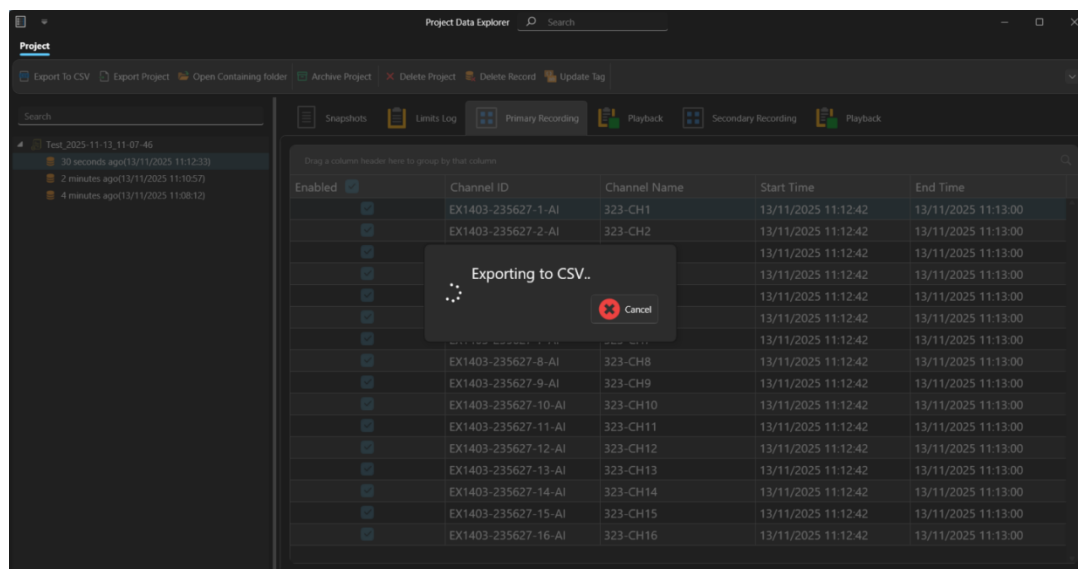

Figure 33. Exporting Data
- The data acquisition should be stopped prior to exporting the data. Select the preferred channels and click on the **Export to CSV** button. Refer to Figure 33.